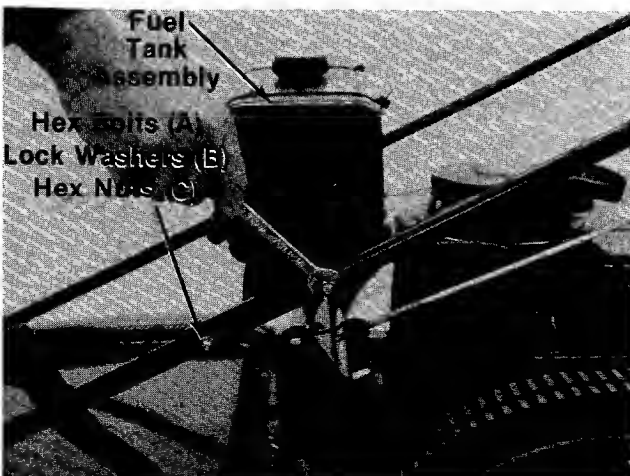

FIGURE 12.
1. Place the fuel tank assembly in position on the strut bars as shown in figure 12. Secure to strut bars using hex bolts (A), lock washers (B) and hex nuts (C). Tighten securely.